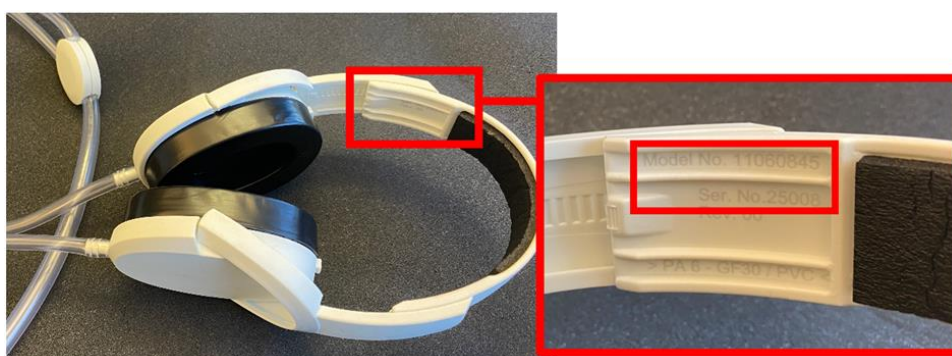

Figure 1: Location of model number and serial number on over-ear headphones
- Check the model number and serial number of your over-ear headphones. See *Figure 1* for their location on the over-ear headphones. If the model number is not identical or the serial number is outside the stated range (7981 – 32200), they are not affected.